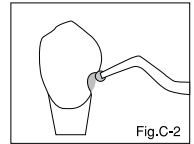

Fig.C-2
- a) Take the mixed material using a suitable placement instrument or brush and apply to the prepared lesion or tooth surface without incorporating air bubbles (Fig.C-2). Form the contour and if possible cover with a matrix.